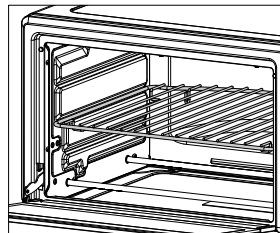

Figure 2: Wire Rack Positioning
- The oven has three rack positions to accommodate a wide variety of foods. The Wire and Mesh Air Fry racks can be inserted in the oven's top, middle, or bottom rack guide rails. (See Figures 2 and 3)